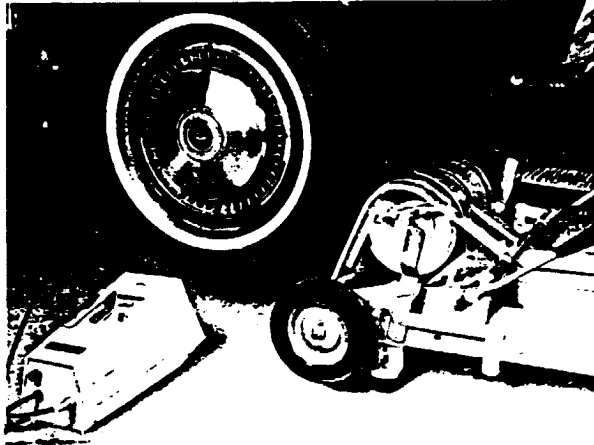

Fig. 23
(A) For best results when using the Strobe Balance-Indicator, it is recommended that the 230 volt, 4 horsepower, single-phase No. 138-41-1, passenger-car and truck spinner, or larger, be used. See Fig. 23.